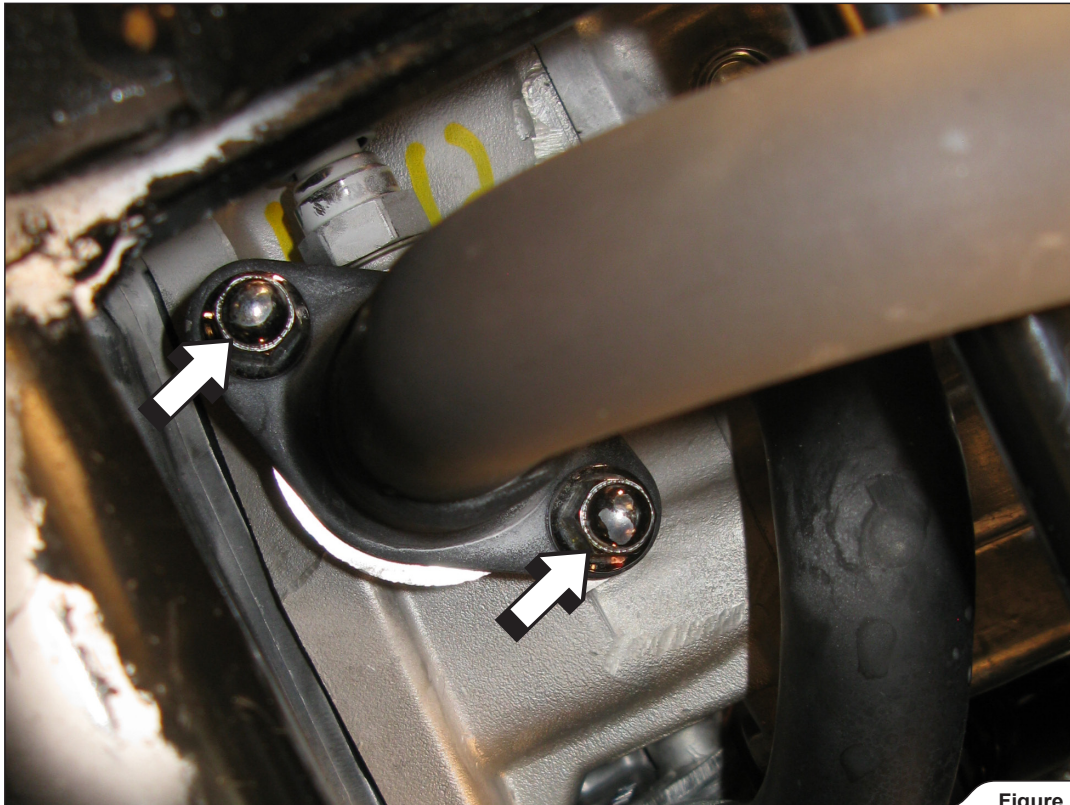

Figure 1
2. Unscrew the marked flange bolts (**Figure 1**).